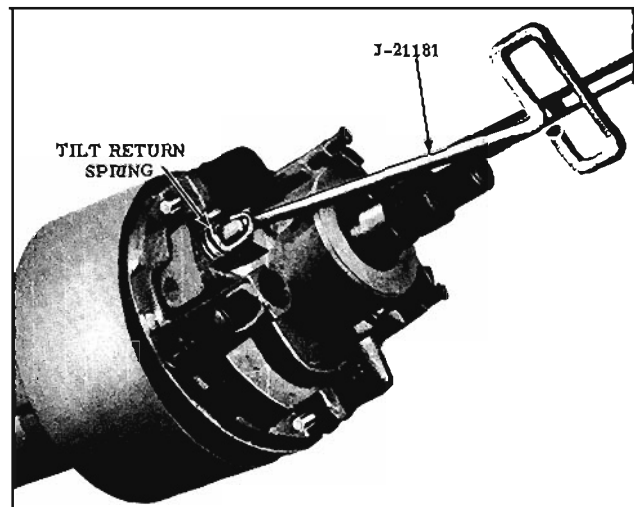

Fig. 8-114 Installing Tilt Return Springs
4. Install the upper ends of the two tilt return springs with Tool J-21181. (Fig 8-114)